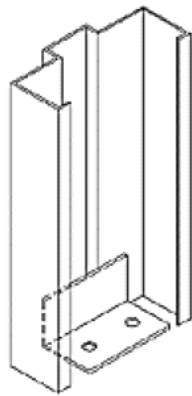
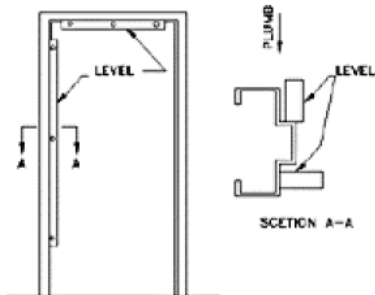

Figure 7a
Figure 12
5. Floor Anchors: (Figure 7a) The standard floor anchor is welded to the foot of frame and, if firmly secured to the floor by expansion shield fasteners, provides solid anchorage for the base of each jamb. However, as it cannot be adjusted, shimming must be used if the floor is not level. This type of anchor cannot be used in existing masonry, preframed wood stud walls or on slip-on dry-wall frames. At prepared openings (existing masonry or concrete) an additional expansion anchor reinforcement is provided. With preframed wood stud walls an additional wood stud anchor is included. In both instances these anchors are located as close to the bottom of the jamb as is practical.
2. Plumbing the Frame: The contractor should have a carpenter level, square and spreader. Set the frame in the desired location and level the header. If necessary, shim under jamb floor anchor. Figures 7a and 7b, or equalize them through an adjustable floor anchor. With frame on line, set the spreader and fasten jambs to the floor through floor anchors. (Figure 12)
1. Bracing, Plumbing and Using the spreader: The methods noted under Masonry Walls also apply to this wall condition. See Figures 16 and 17, also see Figures 12, 13 and 14. (Figure 16)
Attach jambs to floor through the floor anchor, Figures 7a and 7b. Center the studs in the frame throat. Attach the steel studs to floor and ceiling runners. Attach steel studs to anchors with screws or by welding (Figure 17)